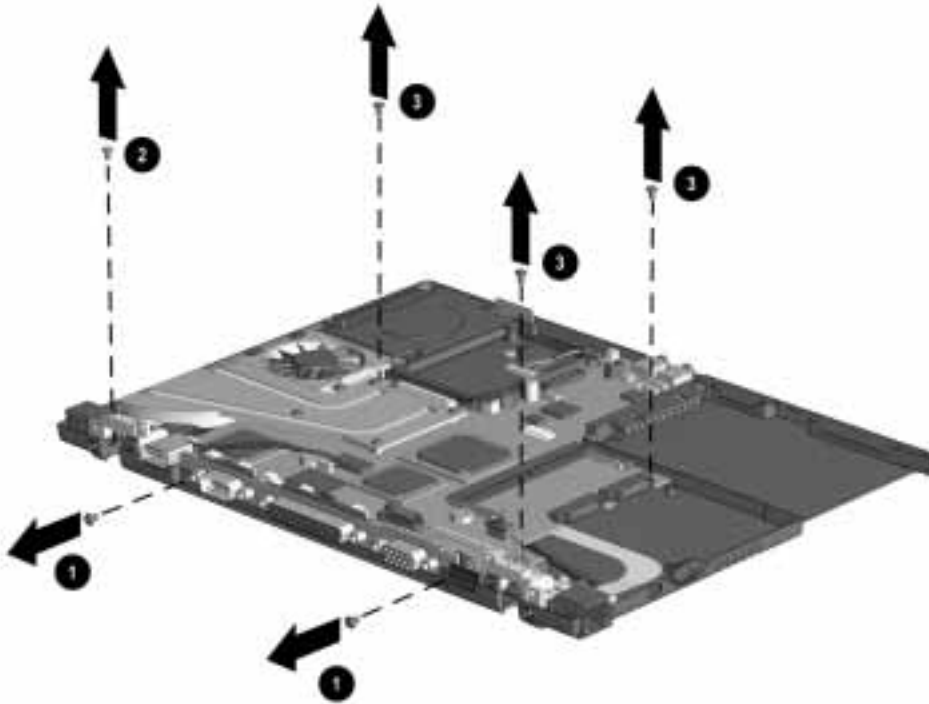

Figure 5-28. Removing the System Board
11. Remove the two screws from the back of the computer that secures the system board to the base enclosure ❶ (Figure 5-28).
12. Remove the silver screw from the heat sink ❷.
13. Remove the black screws from around the fan ❸, around the USB port ❹, and around the battery cable in the upper left of the board ❺.